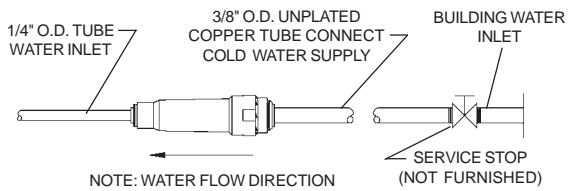

FIG. 11
8. Connect drain and water supply lines to the freeze resistant fountain. Refer to Figure 1, 2, 3, 4, 5 or 6 for component positions. Inline strainer must be used on the inlet water line. See Fig. 11.